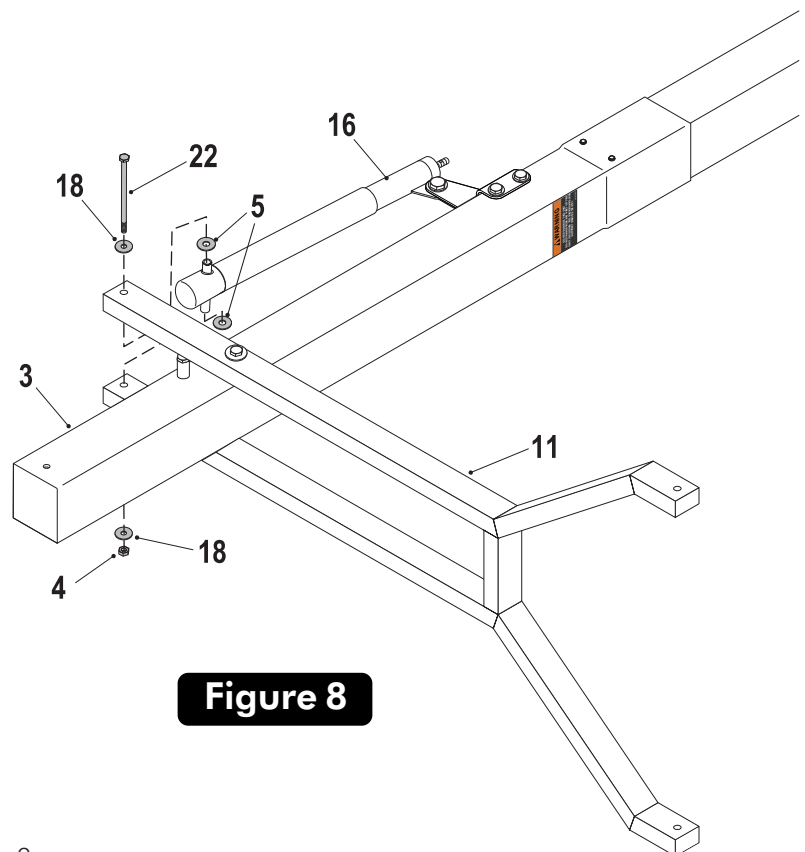

Figure 8
9. Secure Actuator (#16) to Lower Arms (#11) using one bolt (#22), two flat washers (#18), two plastic washers (#5) and one lock nut (#4). See **Figure 8**. Tighten both bolts (#22) **snug but, do not over tighten.** **Board Arms must pivot freely.**